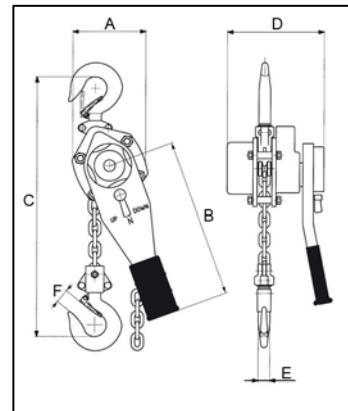

Fig. 3 Dimensioned sketch
**Table 1 Dimensions** (See Fig. 3 dimensioned sketch)
Fig 3 a
Fig 3 b
Fig 3 c